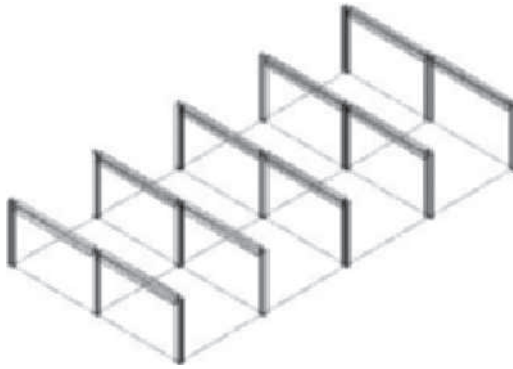

FIGURE 13.25 Beams placed between columns
17. Continue to place the beams as shown in Figure 13.25.